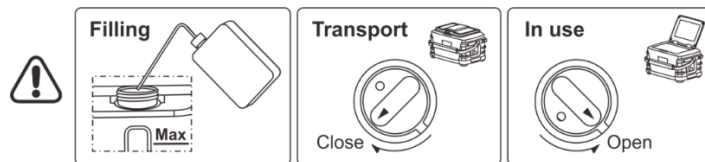

Figure 5 Filling diagram
1. Fill the medium: firstly rotate the cover of the liquid storage tank to remove it and fill in the required working medium, as shown in state I (Filling) in Figure 5, the medium height needs to be between the Min mark line and the Max mark line;